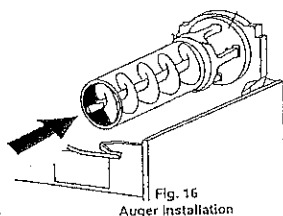

Fig. 16
4. Insert the auger into the evaporator (Fig. 16)